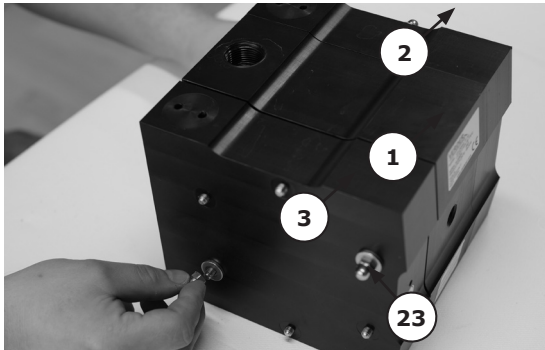

Figure 4
Unscrew the bolts on the assembly pins (23) on one side using a socket wrench (see figure 4). Remove the washers, then remove the side housing (02-03). Take care not to damage the sealing surfaces in contact with the diaphragms. Remove the assembly pins from the other side housing and remove the second side housing.